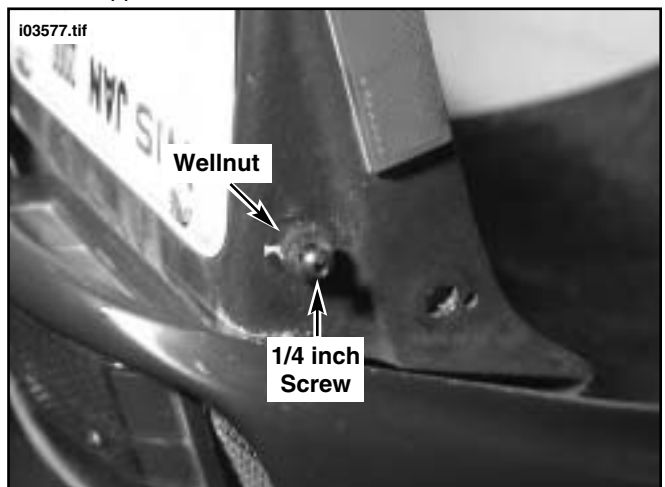

Figure 9. Install Rubber Wellnuts
12. See Figure 9. Obtain Wellnut (Part Number M0707.3) from kit. Thread 1/4 inch screw (Part Number AA0406.3CBL) into wellnut to temporarily aid in installation and install wellnut to new hole in license plate bracket as shown. Remove screw and repeat for the opposite side.